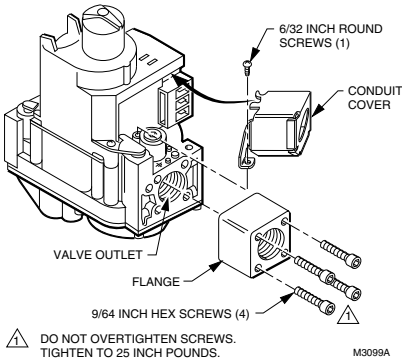

Fig. 1. Install flange to gas control.
1. Never apply a jumper across or short the valve coil terminals. This can burn out the heat anticipator in the thermostat or damage the electronic direct ignition (DI) module.
2. When a gas control is installed external to the appliance, a conduit cover must be installed. See Fig. 1. Place the conduit cover over the flange, then rotate the conduit cover into position.
4. With the O-ring facing the gas control, align the screw holes on the gas control with the holes in the flange. Insert and tighten the screws provided with the flange. See Fig. 1. Tighten the screws to 25 inch-pounds of torque to provide a gas-tight seal.
- Make sure the conduit cover is in position and secured to the gas valve with the screw provided. See Fig. 1.